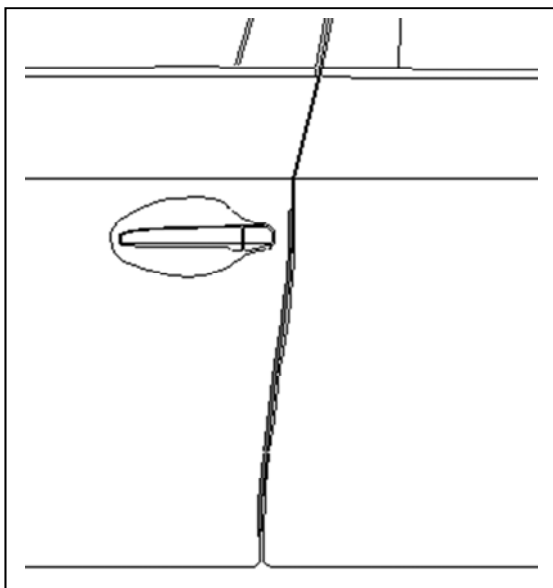

Fig. 2-8
- (7) Carefully close the front door and visually ensure the DEG has sufficient clearance from the adjoining body panels. Carefully remove the template from the door and retain for use on the passenger side (Fig. 2-8).